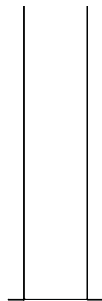

Figure 23
TABLE 3 - FRAMING DIMENSIONS (in inches) FOR FIGURES 23 - 25
2. The brackets have a perforation located at the bottom of each side. Bend them at the perforation. See Figure 23.